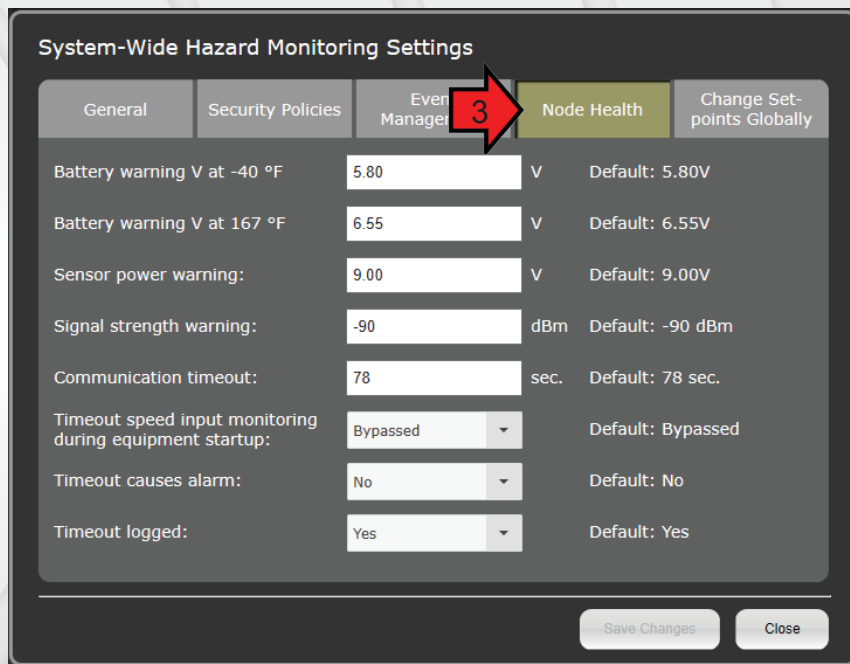

Figure 45
3. Node Health includes settings to alarm for: Battery Voltage, Sensor Power Settings, Signal Strength, and Communication time-out. (Figure 45)